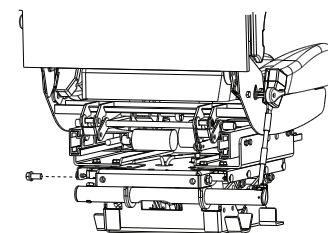

Figure 6
4. Install the mounting bolt to the right hand (or fixed) mounting bracket and tighten. **See Figure 6.**